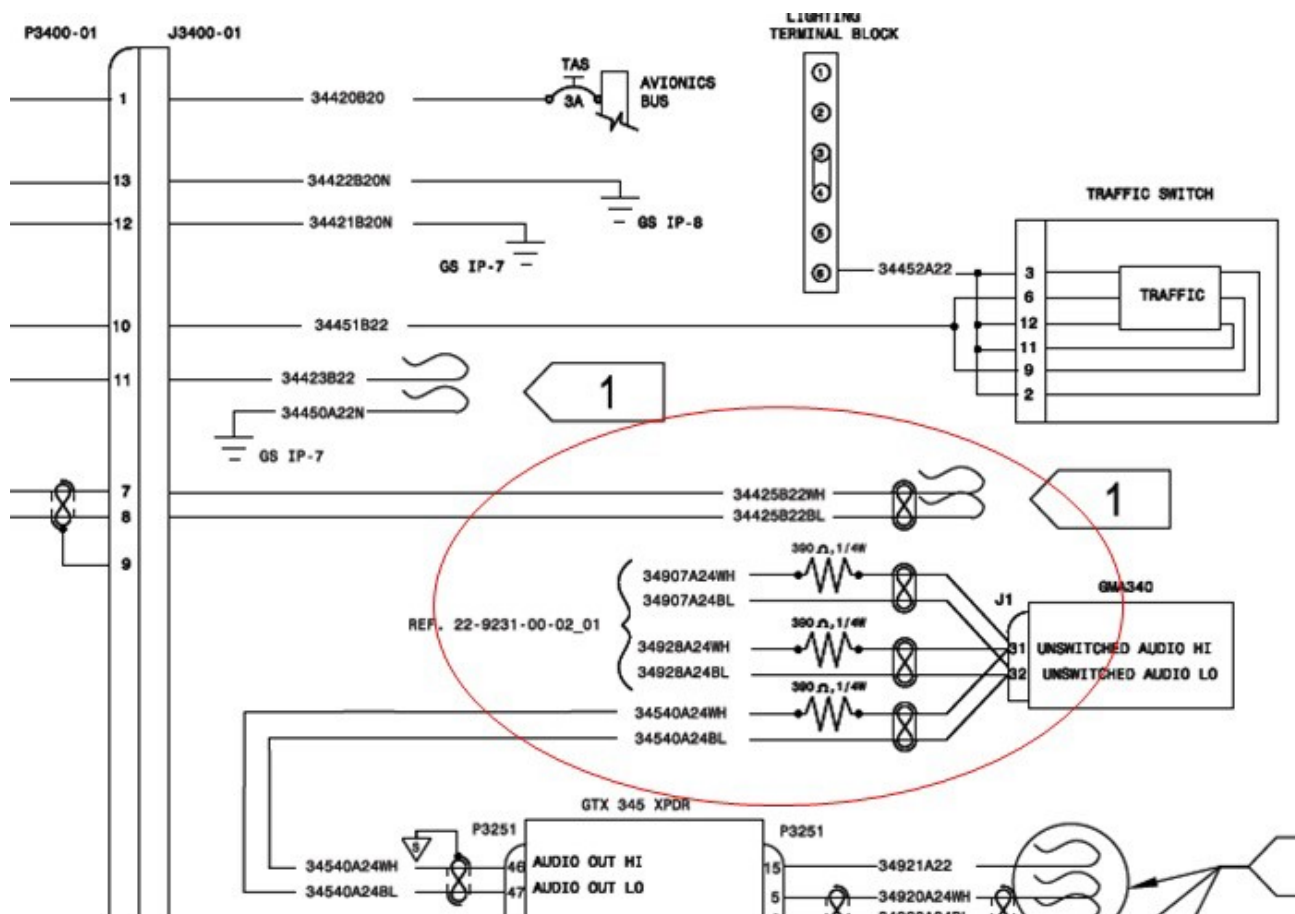

Figure 2. Reference for step 7 onwards.
7. Cap and stow the 34425B22 white wire. See Figure 2, below.